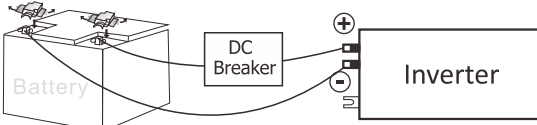

Fig.2
Step4: Install a DC Breaker in a positive line. The rating of the DC Breaker must be according to the inverter's battery current (75Amp). Keep the DC Breaker off.(See Fig.2)
1) Single battery connection (Refer to Fig.2) : When using a single battery, its voltage must be equal to the Nominal DC Voltage of the unit.(See below Table 1)